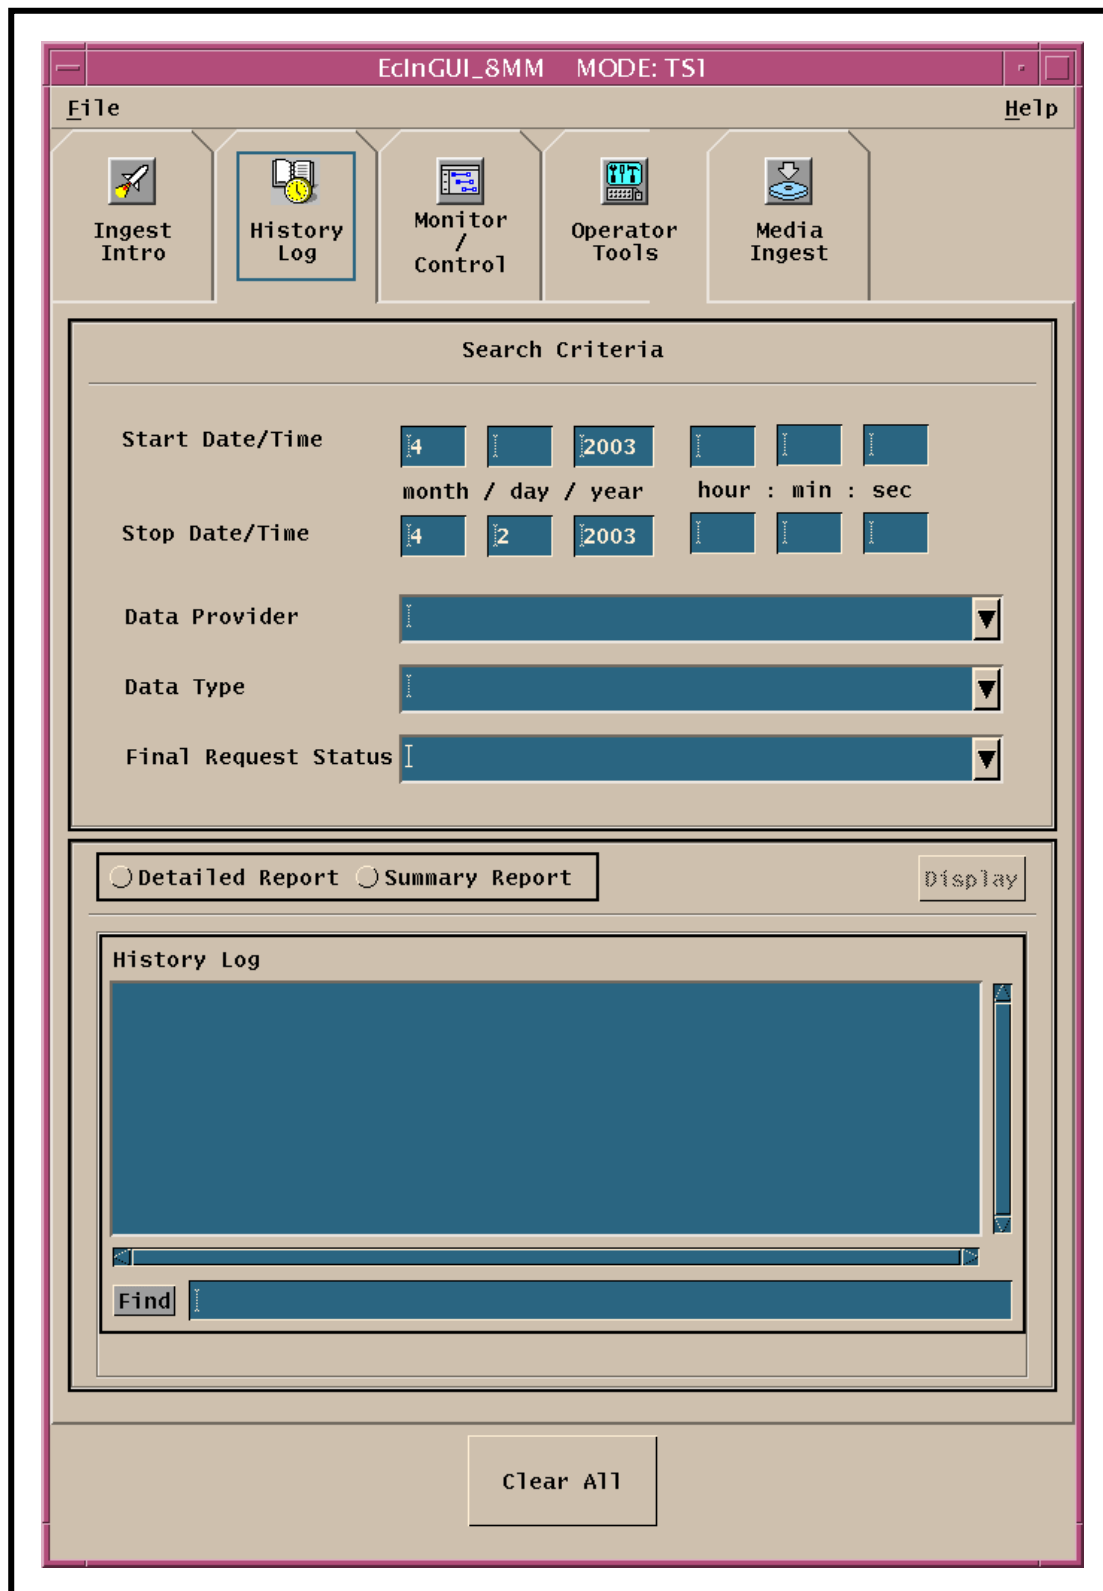

Figure 16. ECS Ingest GUI History Log Screen
- The **History Log** screen (Figure 16) is displayed.